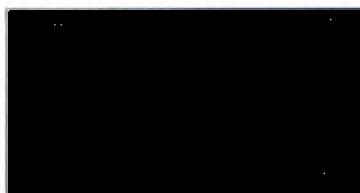

Fig. 108: Diagnostic data dialog box
- ⇒ The selected diagnostic data is displayed in the diagnostic data dialog box (Fig. 108) in the treatment calculation page.